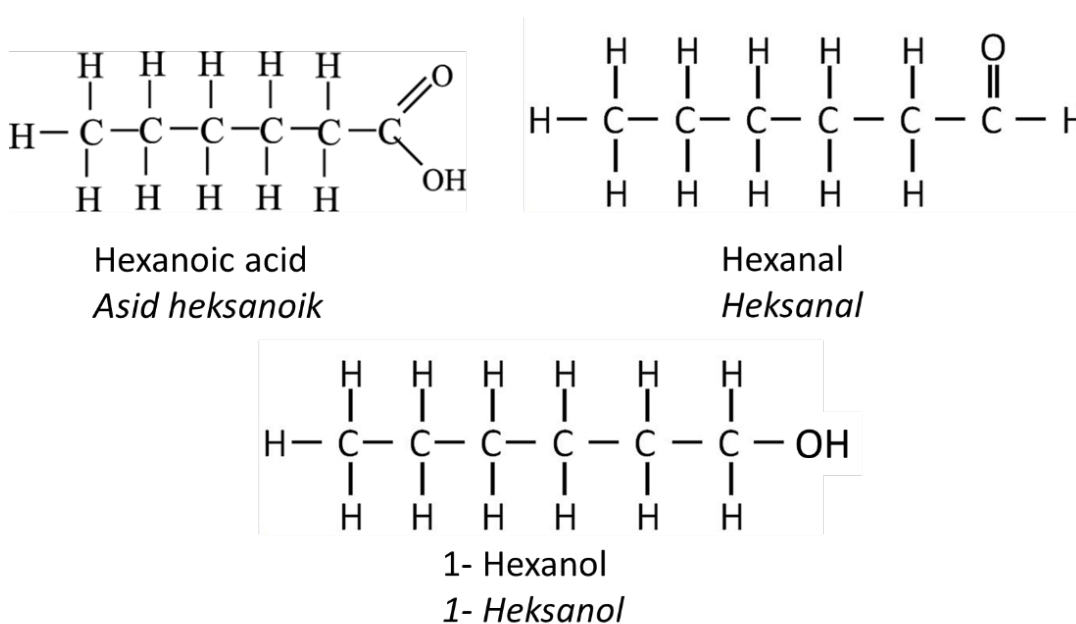

Figure 1 Chemical structures of hexanoic acid, hexanal and 1- hexanol.
- (1). Figure 1 shows the chemical structures of three compounds: hexanoic acid, hexanal and 1-hexanol.